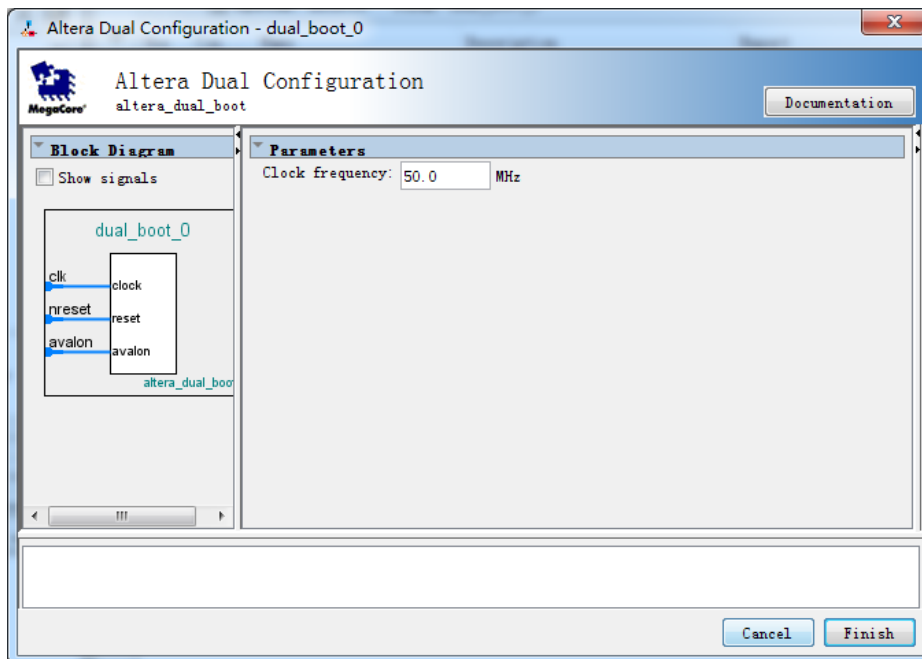

Figure 8-5 Add Dual Boot IP [1]
2. Choose **Library > Basic Function> Configuration and Programming > Altera Dual Configuration** to open wizard of adding Dual boot IP. See **Figure 8-5**.